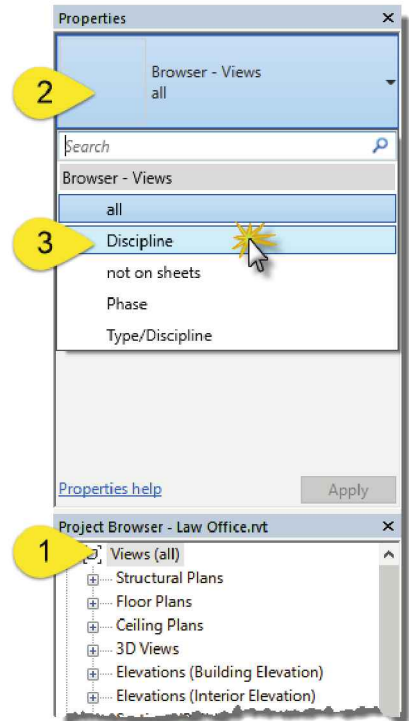

FIGURE 13-2.8
26. Click on the **Views (all)** heading at the top of the *Project Browser* to select it (Figure 13-2.8).
27. Select the *Type* named **Discipline** from the drop-down list (Figure 13-2.8).